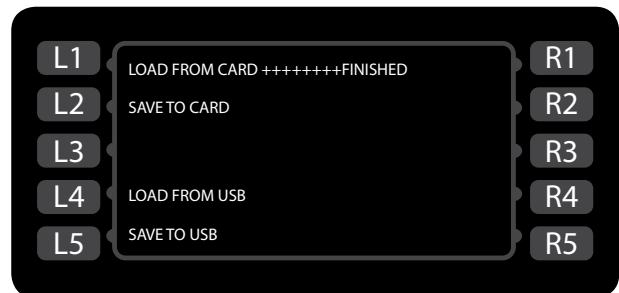

Figure 28: Loading...Finished
3. Verify the oven beeps and reads “FINISHED” (Figure 28).